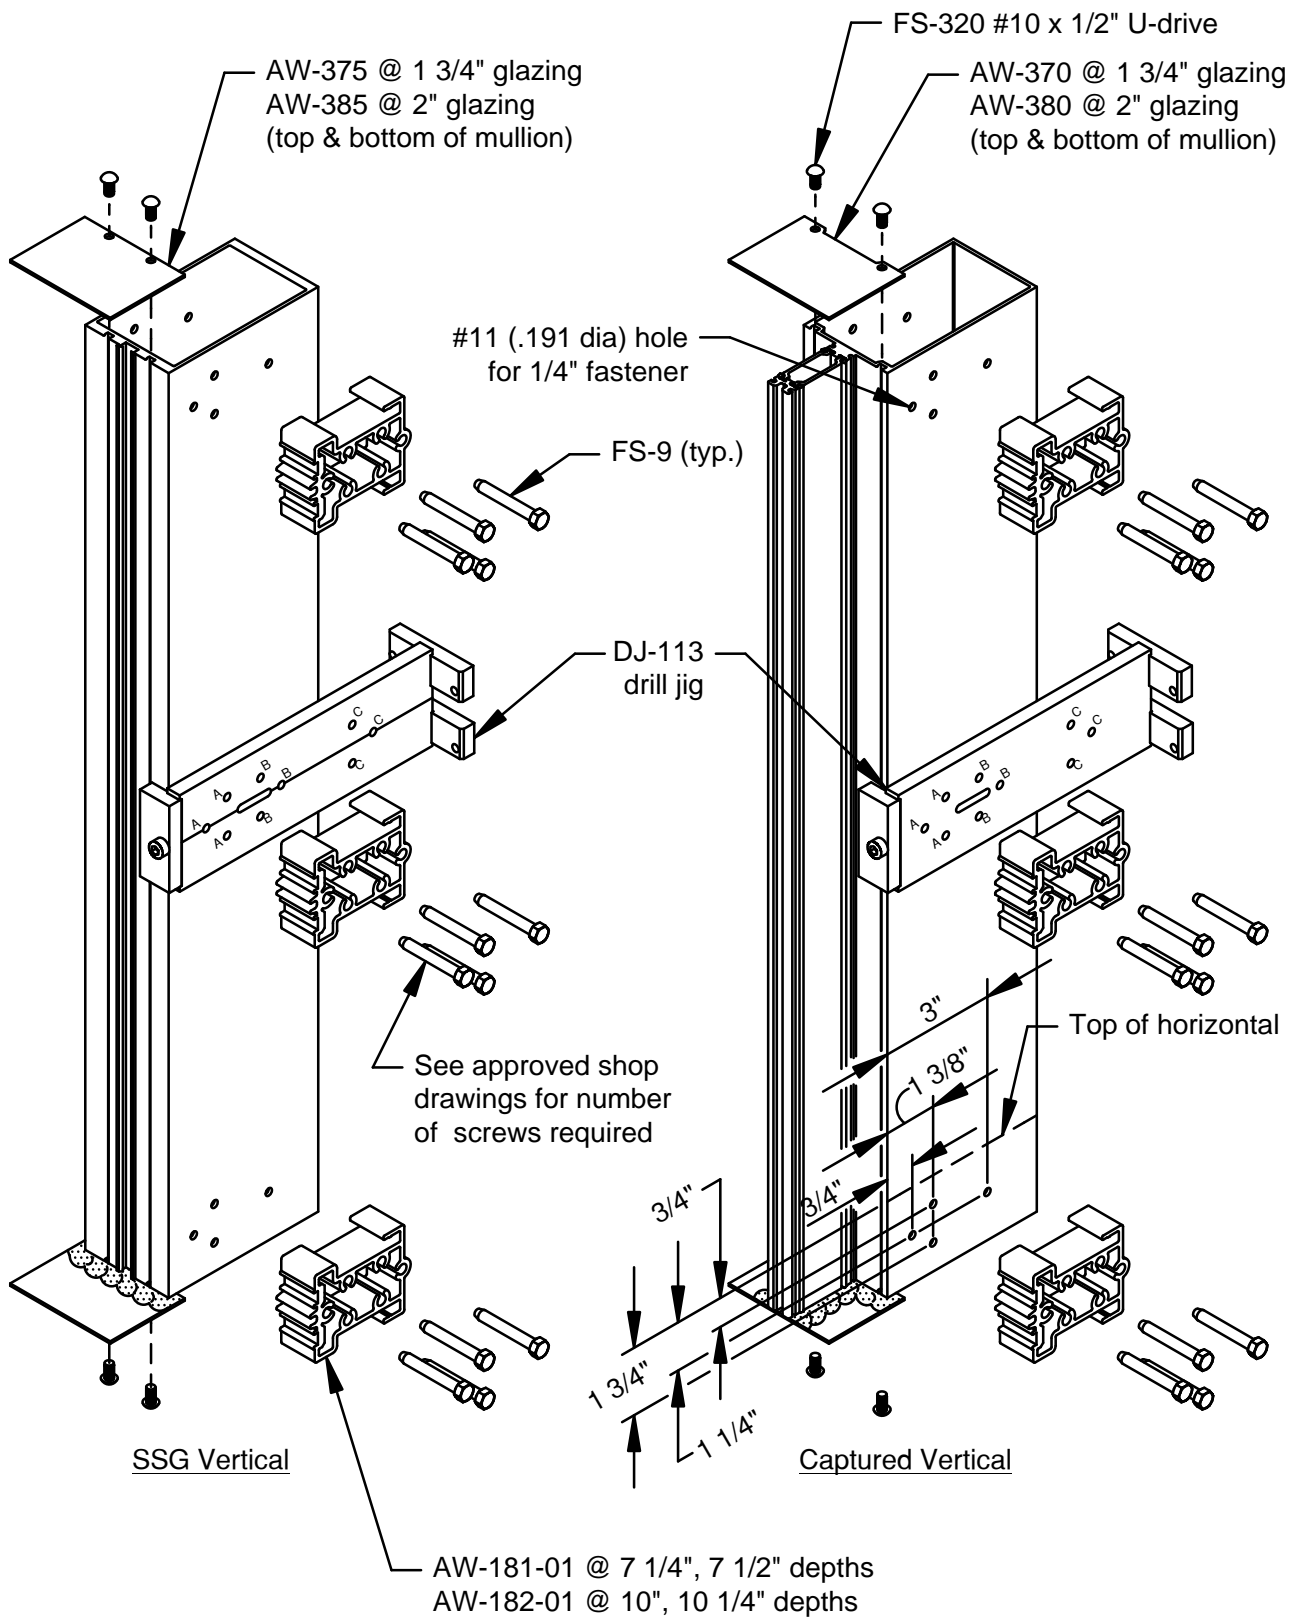

FIGURE 2
1.3 Fabricate vertical mullions for horizontal members using DJ-113. Drill holes for shear block using holes marked with "A" and "B" for 7 1/4" and 7 1/2" system, and "A" and "C" for 10" and 10 1/4" system. Consult with engineer to determine number of screws required for each shear block based on actual job conditions. SEE FIGURE 2, page 5. When working off horizontal centerlines, use the slot milled into the drill jig for aligning jig with centerline.
- 1.4 Install and seal mullion caps to top and bottom of all jamb and intermediate vertical mullions with (2) FS-320 #10 x 1/2" Drive screw. SEE FIGURE 2. Mullion caps at jambs must be modified. SEE FIGURE 10, page 8.
- 2.1.7 Attach shear blocks to all vertical members. SEE FIGURE 2, page 5 for proper orientation on mullion.